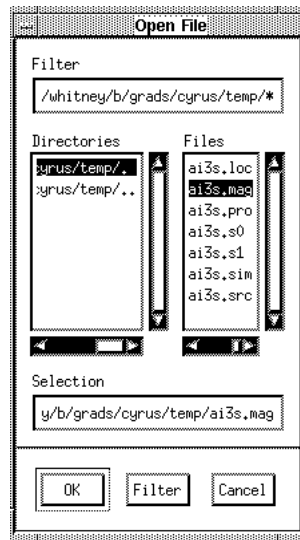

Figure 9.3: Open File Window
- Open...** This option pops up a window offering settings for file filters, changing directories, and opening files. Figure 9.3 shows the open file window.